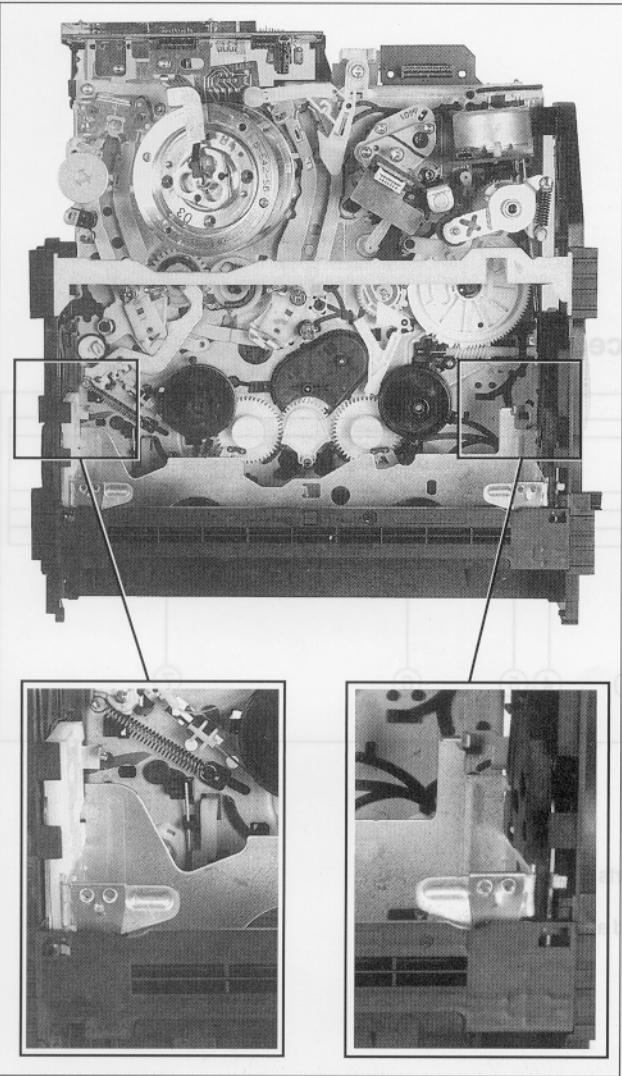

Fig. 1-13
3. Turn the loading pulley counterclockwise (front view) u n t i l the cassette compartment is locked by the right locking tab (fig. 1-13).
4. Clear the right locking tab by moving the lever forward (fig. 1-13).
5. Turn the loading pulley counterclockwise (front view) until the cassette compartment is locked by the left locking tab (fig. 1-13).
6. Clear the left locking tab by pressing down the lever (fig. 1-13).